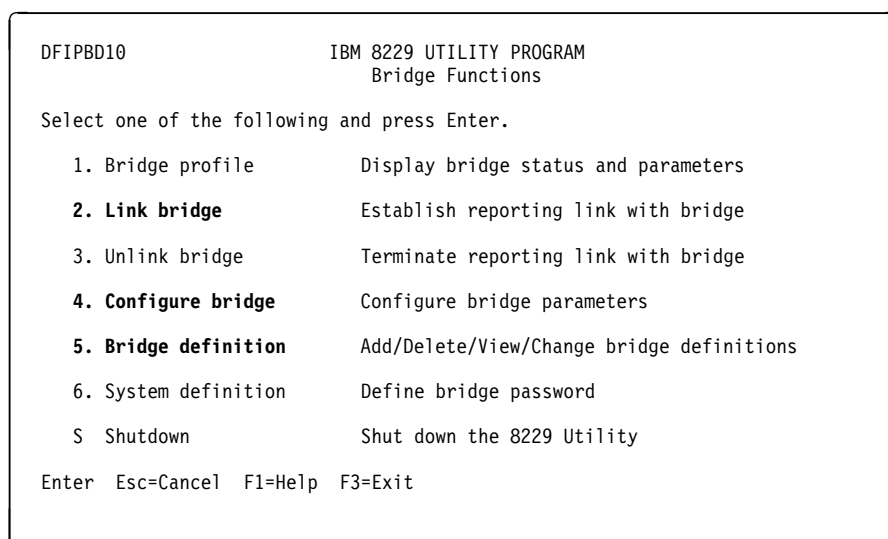

Figure 2-16. IBM 8229 Utility Program Main Menu
- 1) \_\_\_\_ Refer to Figure 2-16, select option **5. Bridge definition**, then press **enter**.